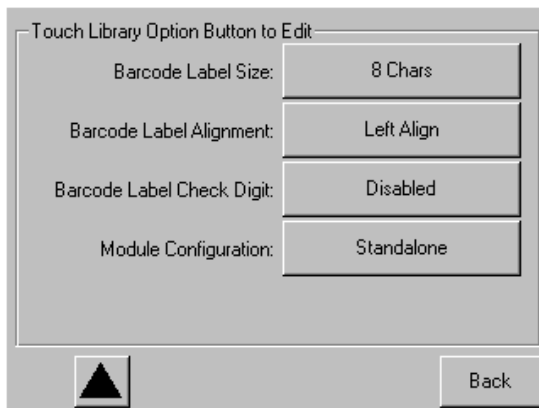

Figure 3-3. Module Configuration select screen
4. Press the down arrow (▼) until the Module Configuration menu option appears on the bottom of the display (see Figure 3-3).